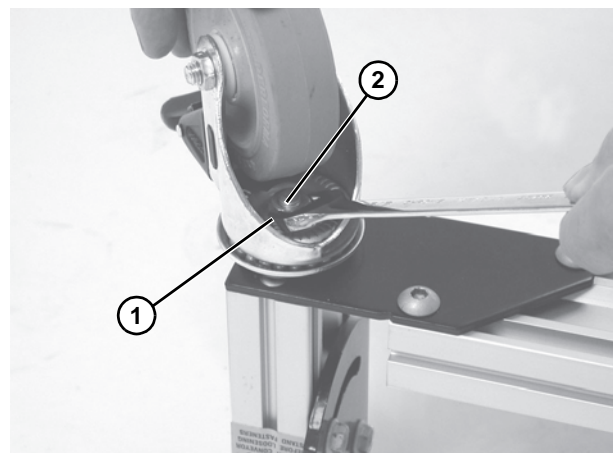

Figure 13
2. Place nut (**Figure 13, item 1**) on bolt (**Figure 13, item 2**). Tighten nut to 177 in-lb (20 N-m).